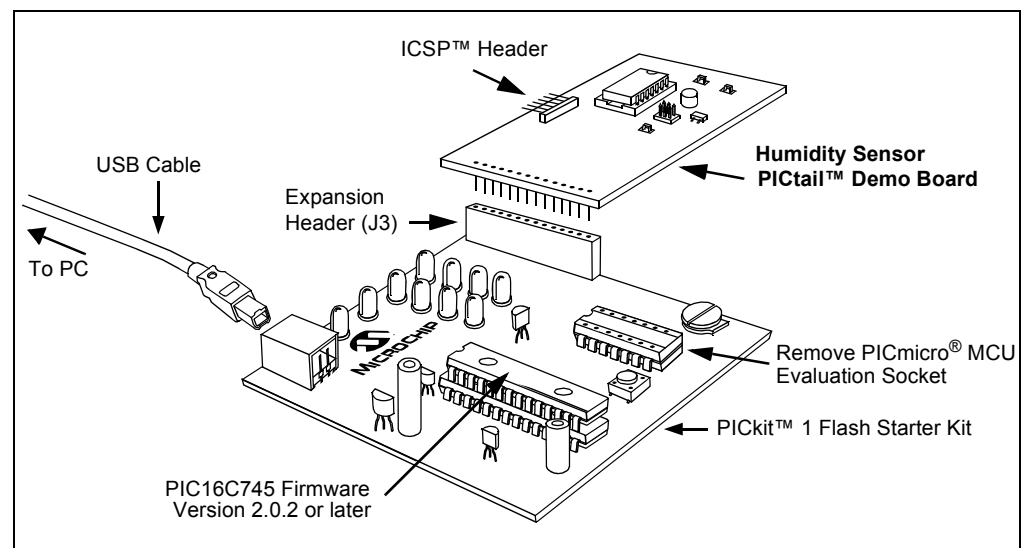

FIGURE 2-1: Board Connections for PICKit™ 1 Flash Starter Kit.
The PICkit 1 Flash Starter Kit (DV164101) programs PICmicro® microcontrollers. It is used to program the PIC16F690, and provides a communications link with the PC. The PICkit™ 1 Flash Starter Kit's PIC16C745 has a USB port that communicates with the Humidity Sensor PC Program. It also connects to the Humidity Sensor PICtail™ Demo Board (the on-board PIC16F690) via a header (see Figure 2-1).
This section discusses the primary method for setting up the Humidity Sensor PICTail™ Demo Board. An exploded view of how the different boards connect is shown in Figure 2-1.
2. Plug this board into the PICKit 1 Flash Starter Kit's expansion header J3 (as shown in Figure 2-1) without covering the LED array. There should be no change in the status LEDs on the PICKit™ 1 Flash Starter Kit board after it is plugged in.